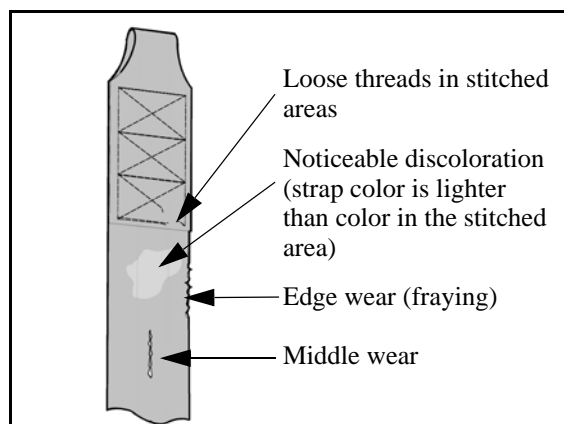

Fig. 26
- 2) Look for any signs of wear or discoloration (see Fig. 26 below).